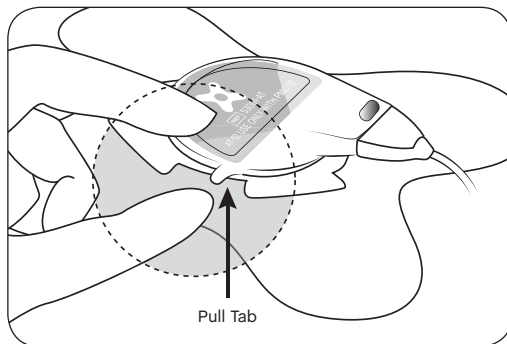

figure 12: Removing Applicator
- B. Remove the applicator from the sam Ultrasound Coupling Bandage by pulling the tab on the side of the gel cup. This unlocks the cup from the applicator (See Figure 12).